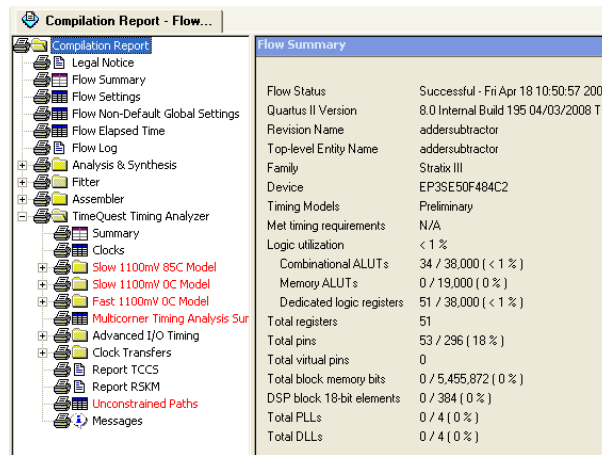

Figure 19: Compilation report.
2. When the compilation is finished, a compilation report is produced. A window showing this report, displayed in Figure 19, is opened automatically. The window can be resized, maximized, or closed in the normal way, and it can be opened at any time either by selecting **Processing > Compilation Report** or by clicking on the icon . The report includes a number of sections listed on the left side of its window. Figure 19 displays the Compiler Flow Summary section, which indicates that only a miniscule amount of chip resources are needed to implement this tiny circuit on the selected FPGA chip.
- Click on the small + symbol next to TimeQuest Timing Analyzer to expand this section of the report, as shown in Figure 19. Notice there are multiple models included, which describe the performance of the circuit under different operating conditions. Expand the report for Slow 1100mV 85C Model and click on the item Fmax Summary to display the table in Figure 20. The table shows that the maximum frequency for our circuit implemented on the specified chip is 440.92 MHz. You may get a different value of f_{max} , dependent on the specific version of the Quartus® II software installed on your computer.